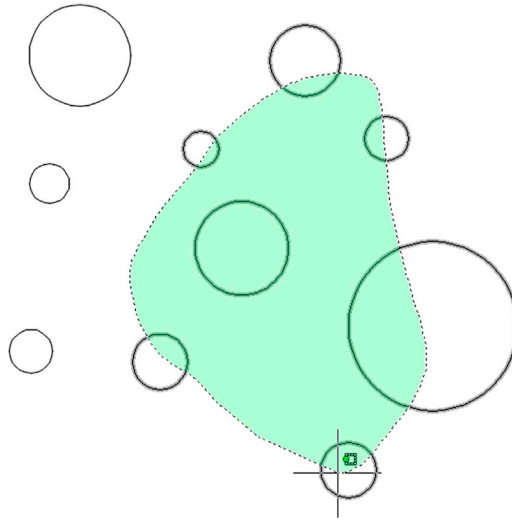

FIGURE 1.33 Crossing Lasso.
- Step 1.** Draw another set of circles, as seen in Fig. 1.33, or just undo your previous steps.
- Step 3.** Do not type anything in, rather *press and hold down* the left mouse button and drag it to the *left* (thus making it a *Crossing Lasso*) around several of the circles, as seen in Fig. 1.33.